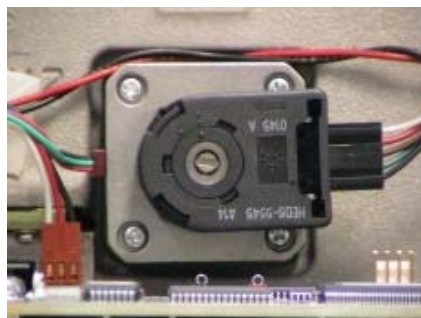

Figure 2-7 Filter Position Adjuster
- * CCW will move the filter into the beam. See Figure 2-7.